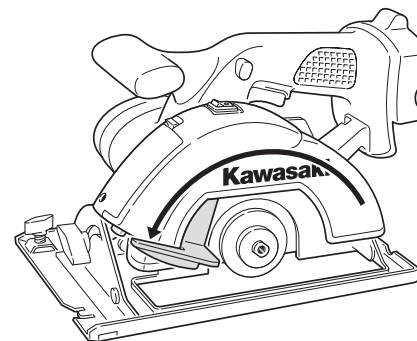

FIG. 1
2. Retract the lower guard (see Fig. 1).